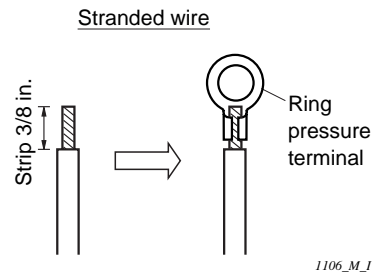

Fig. 5-1
- (1) Cut the wire end with a wire cutter or wire-cutting pliers, then strip the insulation to expose the stranded wiring about 3/8 in.. (Fig. 5-1)
- (2) Using a Phillips head screwdriver, remove the terminal screw(s) on the terminal plate.
- (3) Using a ring connector fastener or pliers, securely clamp each stripped wire end with a ring pressure terminal. (Fig. 5-1)